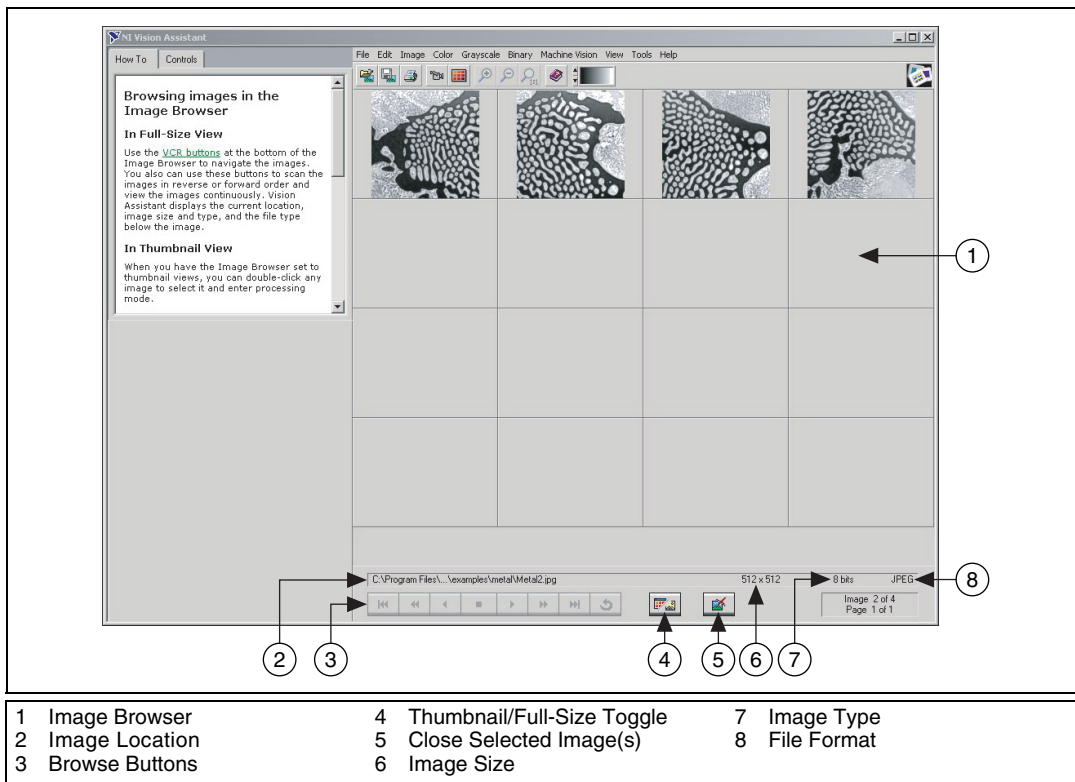

Figure 2-1. Image Browser
- **Image Browser**—Contains all of the images currently loaded in Vision Assistant. Through the Image Browser, you can select an image to process by double-clicking it. Refer to Figure 2-1, *Image Browser*, to view images loaded into the Image Browser.
Vision Assistant loads the image files into the Image Browser, as shown in Figure 2-1. The Image Browser provides information about the selected image, such as image size, location, and type.
You can view new images in either thumbnail view, as shown in Figure 2-1, or in full-size view, which shows a single full-size view of the selected image.